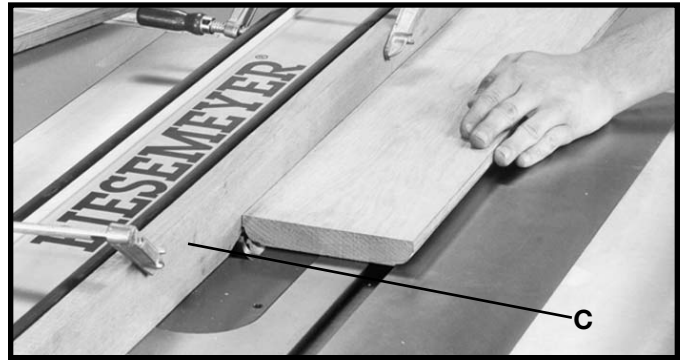

Fig. 129
It is necessary when using the moulding cutterhead to add wood-facing (C) to the face of the rip fence, as shown in Fig. 129. The wood-facing is attached to the biesemeyer fence with two clamps, as shown (refer to the Unifence section of this manual for attaching wood facing to a Unifence). 3/4 inch stock is suitable for most work although an occasional job may require 1 inch facing.
Position the wood-facing over the cutterhead with the cutterhead below the surface of the table. Turn the saw on and raise the cutterhead. The cutterhead will cut its own groove in the wood-facing. Fig. 129, shows a typical moulding operation. **NEVER USE MOULDING CUTTERHEAD IN A BEVEL POSITION.**